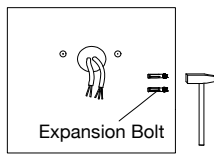

Figure 10
**STEP 2:** Knock the expansion bolts into the wall. (FIGURE 10)